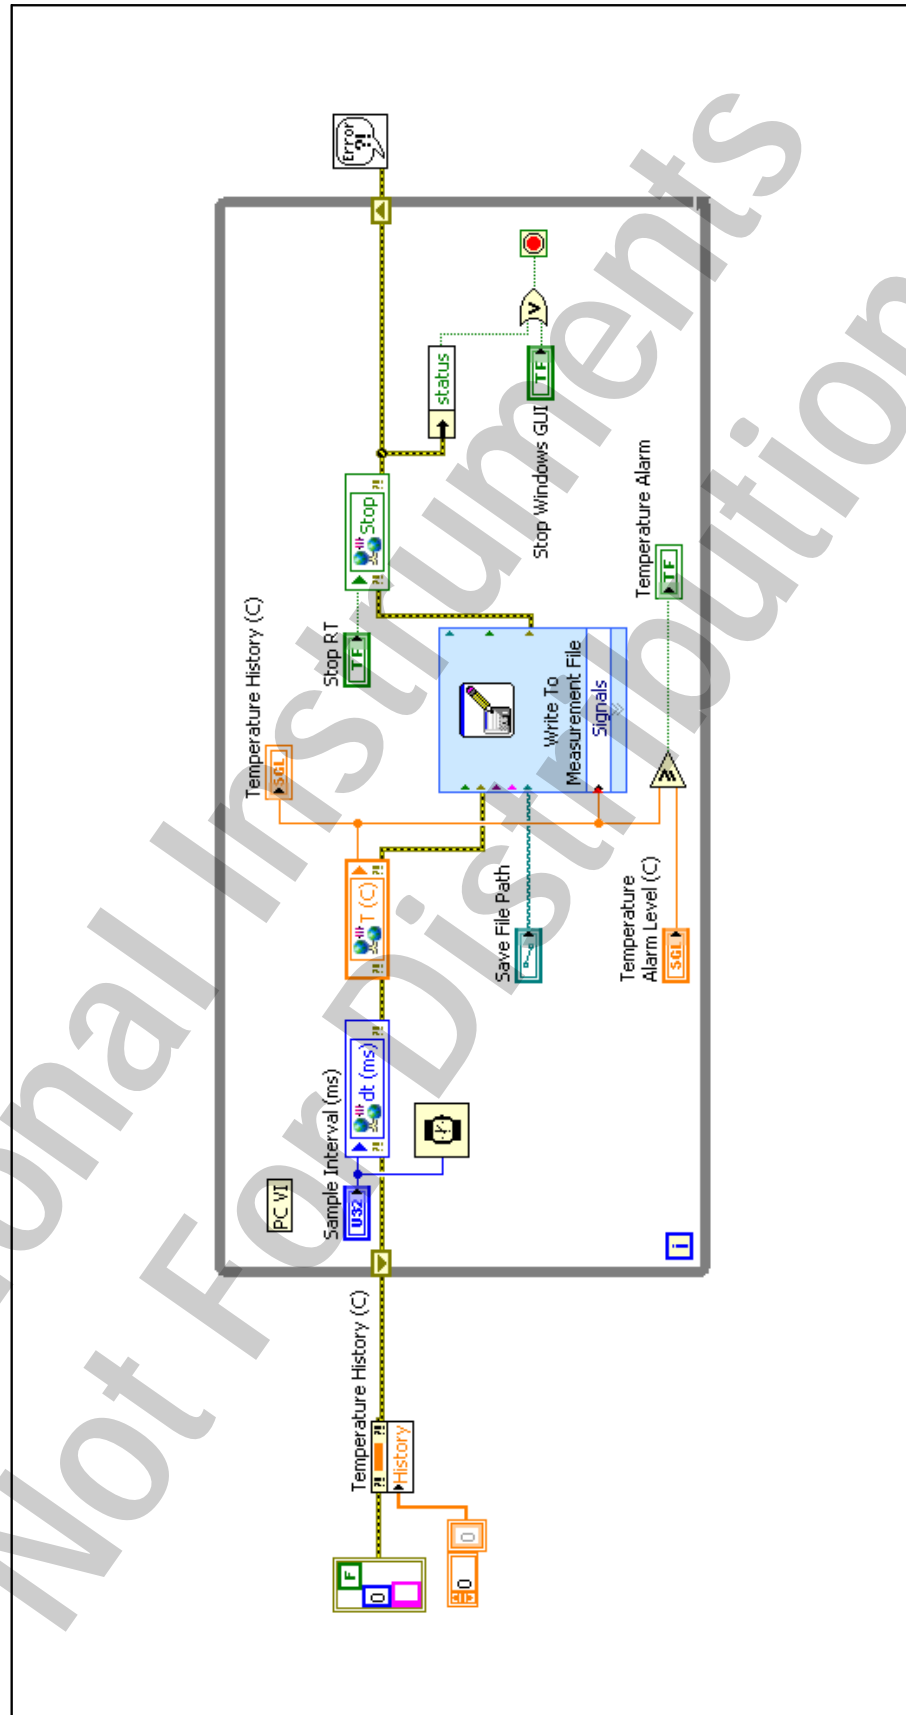

Figure 8-8. Temperature Monitor PC VI Block Diagram
In the following steps, you build the block diagram shown in Figure 8-8:
- ☐ Drag the **dt (ms)**, **T (C)**, and **Stop** shared variables from the Project Explorer to the Temperature Monitor PC VI block diagram and arrange them as shown in Figure 8-8.
- ☐ Add a While Loop to the block diagram as shown in Figure 8-8.
- ☐ Wire the T (C) shared variable to the **x** input of the Greater Or Equal? function.
- ☐ Wire the T (C) shared variable to the Temperature History (C) Waveform Chart.
- ☐ Wire the Temperature Alarm Level (C) control to the **y** terminal of the Greater Or Equal? function.
- ☐ Wire the dt (ms) shared variable error out as shown in Figure 8-8.
- ☐ Right-click the Temperature History (C) chart and select **Create»Property Node»History Data** and place the Property Node on the left side of the While Loop.
- ☐ Wire errors as shown in Figure 8-8.
10. Wire the controls to the shared variables, Wait function, Write to Measurement File VI, and the conditional terminal as shown in Figure 8-8.